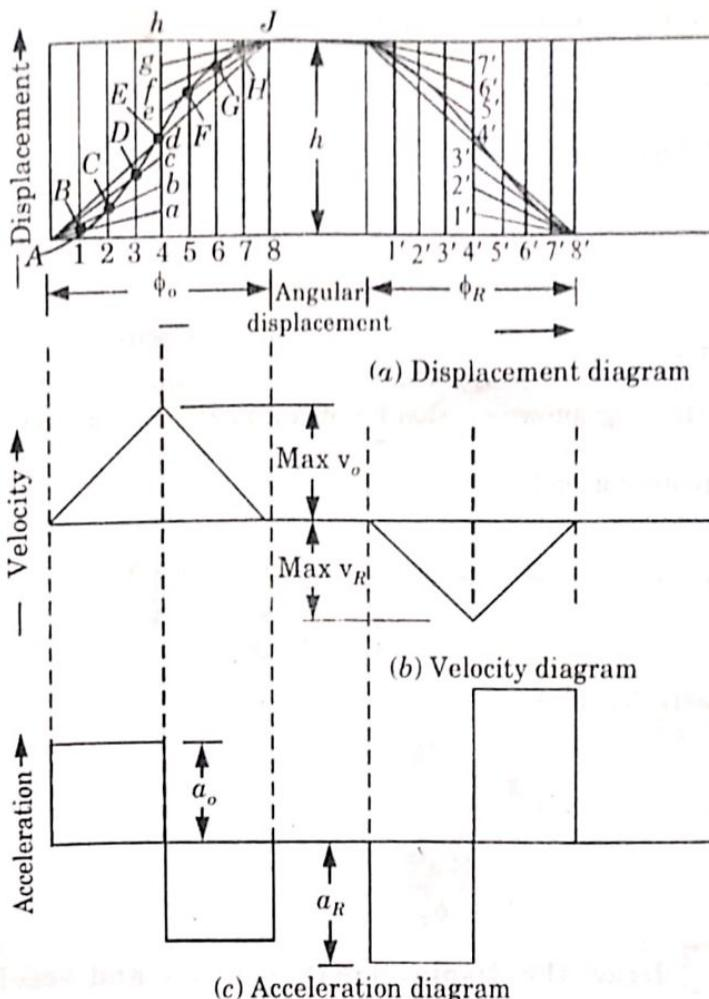

Fig. 2.6.1.
- Divide the angular displacement of the cam during out stroke (ϕ_o) in any number of equal parts (say eight) and draw the vertical lines through these points as shown in Fig. 2.6.1 and numbered these points as 1, 2, 3, 4, 5, 6, 7 and 8.